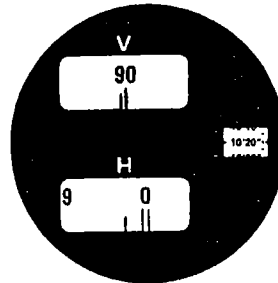

Fig. 27
- c. Turn the micrometer knob until $10'20''$ aligns with arrow indices of the MS window, Fig. 27.